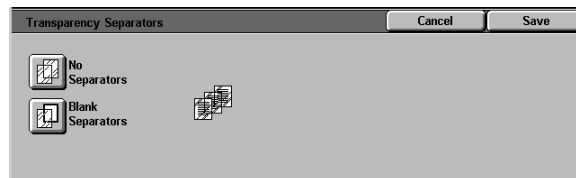

Figure 16: Transparency Separators screen
- 1 Touch the **Transparency Separators** button on the Output Formats tab to display the Transparency Separators screen (Figure 16).
- **No Separators** (default setting, Figure 16)